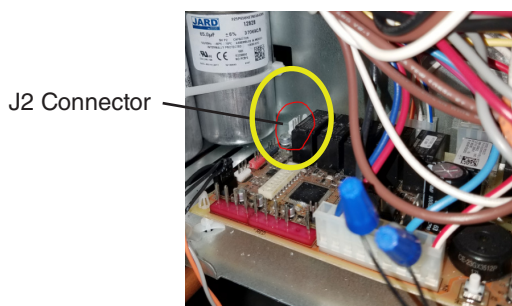
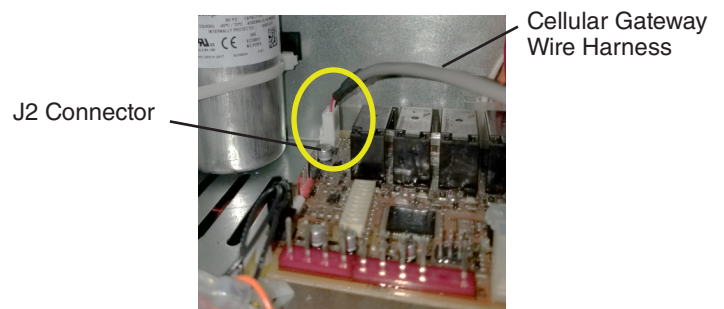

Fig. 3
Fig. 4
- 8) Locate the control board 4-pin J2 connector. See Fig. 3. Connect the cellular gateway control board wire harness to the control board 4-pin J2 connector. See Fig. 4.